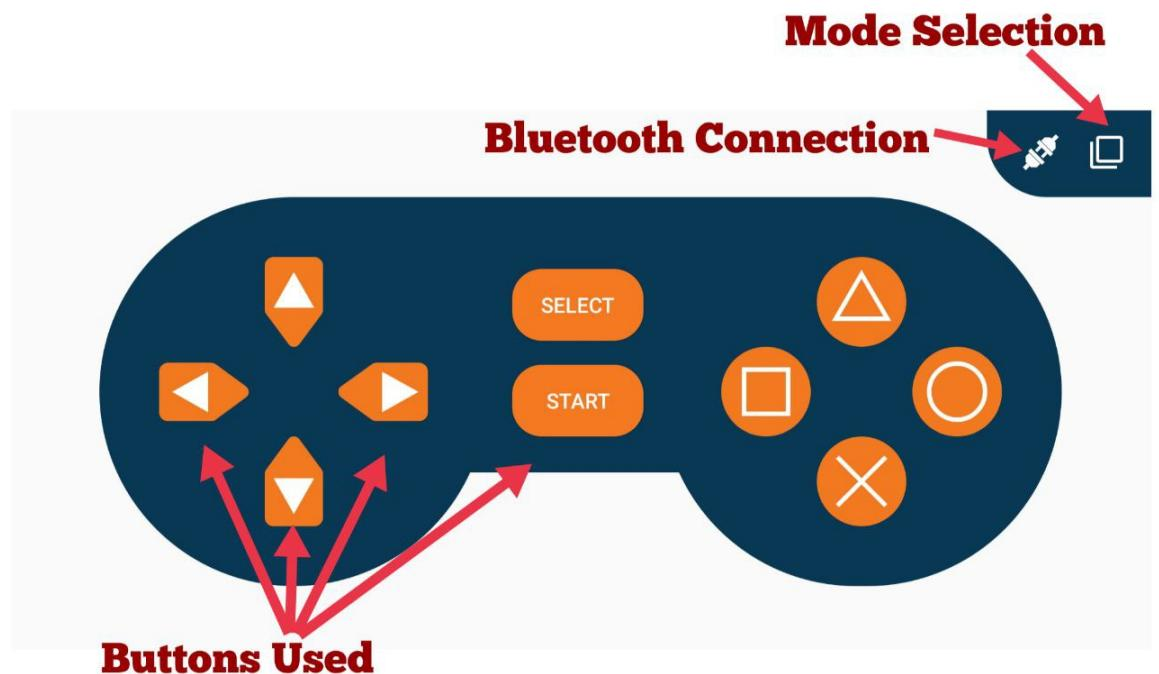

Figure 1.10: Dabble app Interface
1.8.2.5. Open the Dabble application. Select gamepad option in the app and then select Digital Mode and connect it app to ESP-32 by connecting it ESP-32 bluetooth as shown in Figure 1.10.